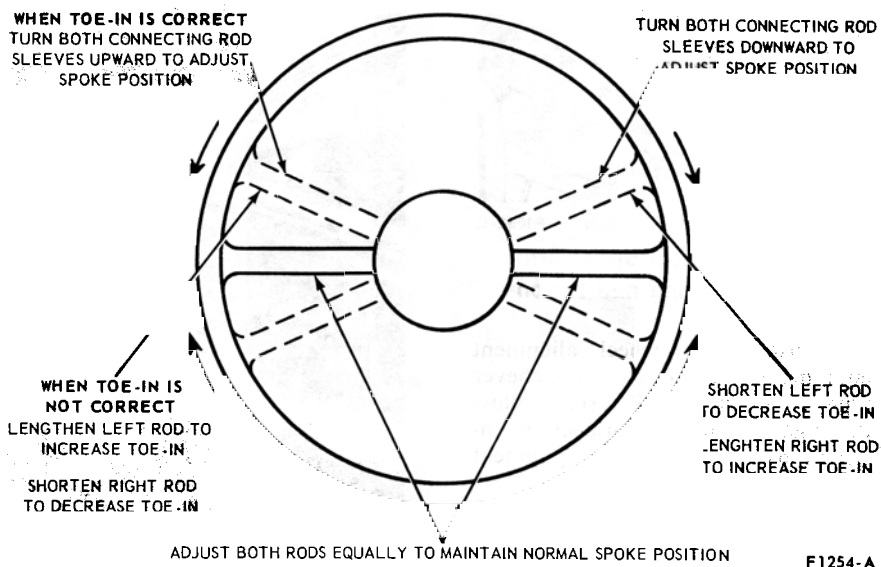

FIG. 43—Toe-in and Steering Wheel Spoke Adjustments—Falcon
3. Recheck toe-in and the steering wheel spoke position. If toe-in is correct and the steering wheel spokes are still not in their normal position, turn both connecting rod sleeves upward or downward the same number of turns to move the steering wheel spokes (Figs. 43 and 44).